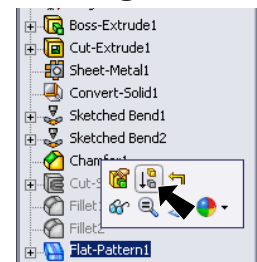
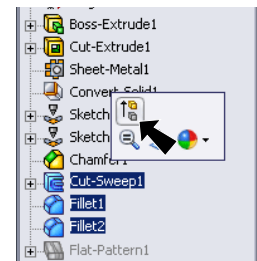

Fig. 68
Fig. 69
Step 3. To return part to bent state, click the **Flat-Pattern1** feature and click **Suppress**  in the menu, **Fig. 68**. Then, **unsuppress** the Cut-Sweep1 and both Fillets, **Fig. 69**.